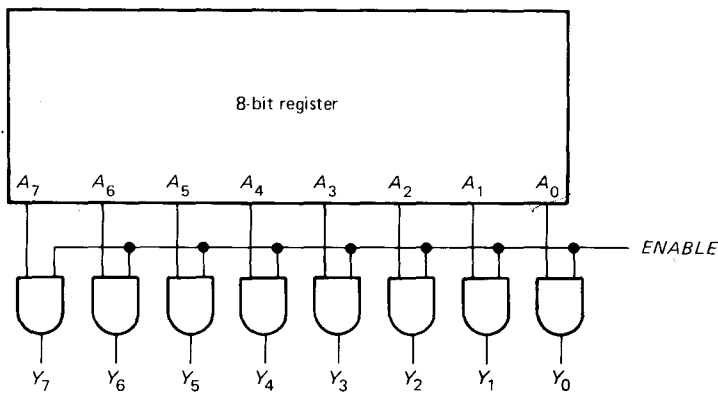

Fig. 2-19
- 2-10. Visualize the register contents of Fig. 2-19 as the word  $A_7A_6 \cdots A_0$ , and the final output as the word  $Y_7Y_6 \cdots Y_0$ . What is the output word for each of the following conditions:
2-11. The 8-bit register of Fig. 2-19 stores  $59_{10}$ . What is the decimal equivalent of the final output word if  $ENABLE = 0$ ? If  $ENABLE = 1$ ?